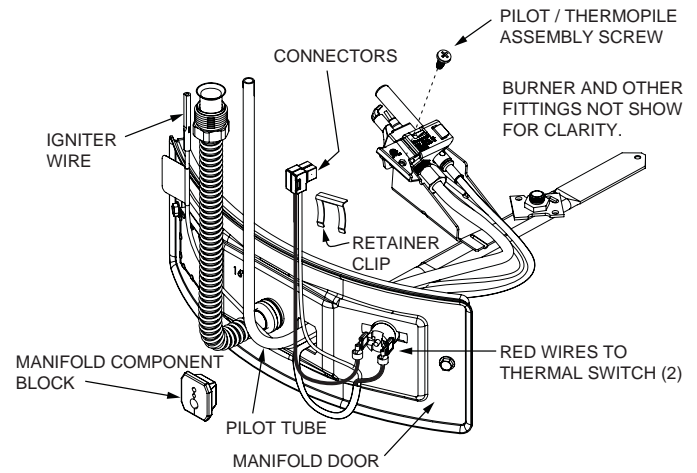

FIGURE 25.
- Remove the screw securing the pilot/thermopile assembly to the pilot bracket and keep for reuse later (Figure 25).
- Lift the retainer clip straight up from the back of the manifold component block (using a flat-blade screwdriver), then remove the manifold component block from the manifold door (Figure 25). IMPORTANT: Be careful not to bend or alter the position of the pilot tube. It will be used as a bending template for the new pilot assembly. Note the placement/order of the wires in the manifold component block.
- Route the new pilot tube and wires through the opening in the manifold door. See Figure 25.